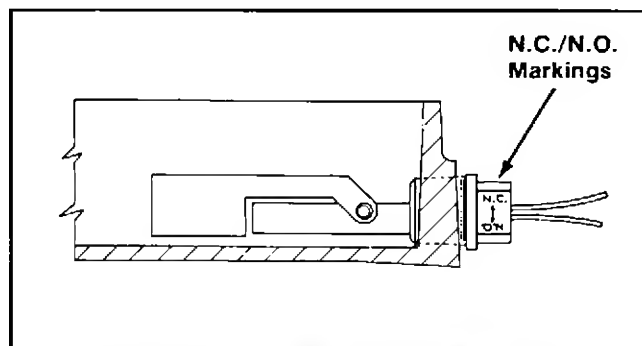

Figure 8-19. Float Switch Installation.
8. Turn in the switch approximately five (5) to six (6) full turns to obtain the proper position. Use a 9/16" open end wrench to tighten the switch. The "N.C." markings on switch will be at the top when the switch is positioned properly as shown in Figure 8-19.
- A. Make sure the switch is in the proper position with the "N.C." markings at the top. Refer to Figure 8-19.